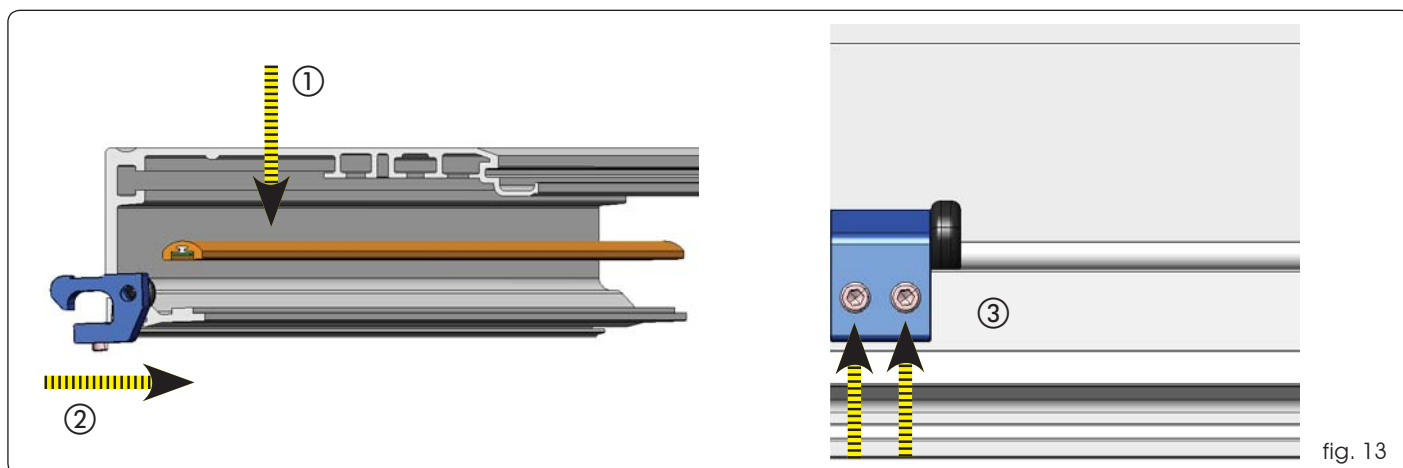
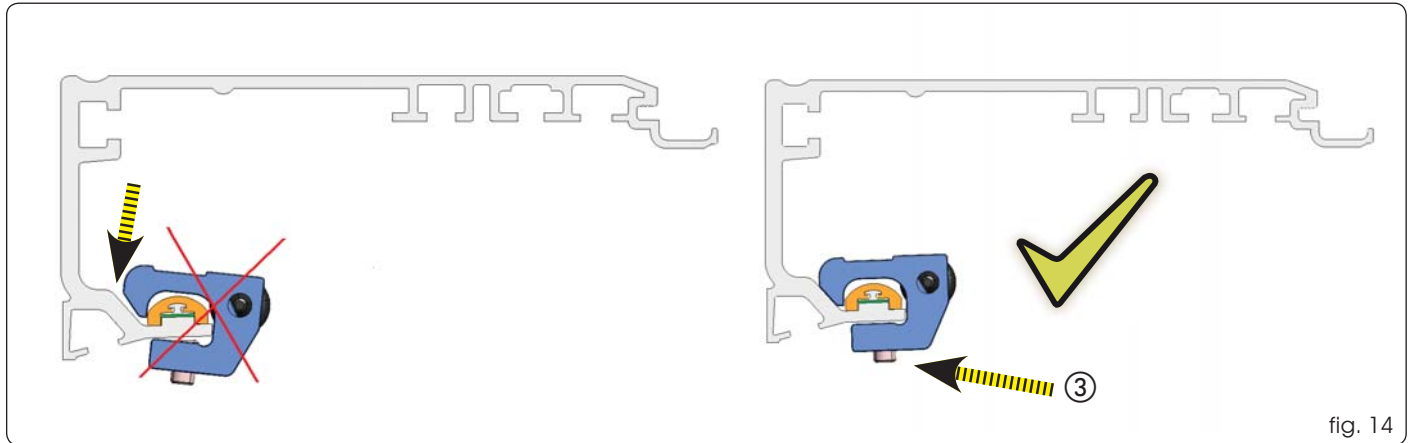

fig. 13
fig. 14
The mechanical stops are 2 for single leaf and to 4 and double leaf . Insert the sliding guide on the profile fig 13-① and insert sideways the mechanical stop fig 13-②.
Then secure it with the 2 Allen screws fig.13 and fig.14-③ .
**Important** : place the side and central mechanical stops correctly, abutting with the profile, before blocking them (fig.14 ③).